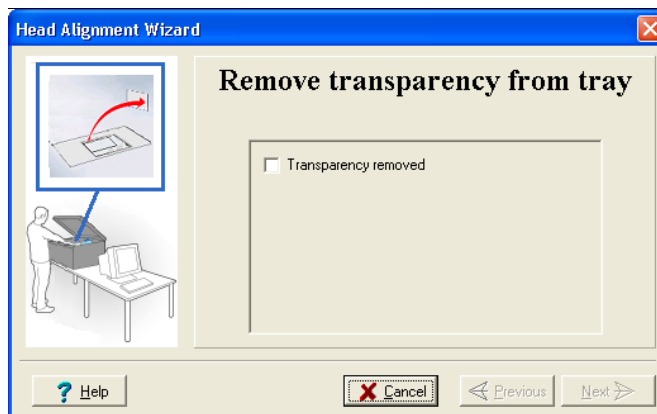

Figure 7-41: Head Alignment wizard—steps 8–10
10. In the wizard screen shown in figure 7-41, select the *Transparency removed* check box, and click Next.